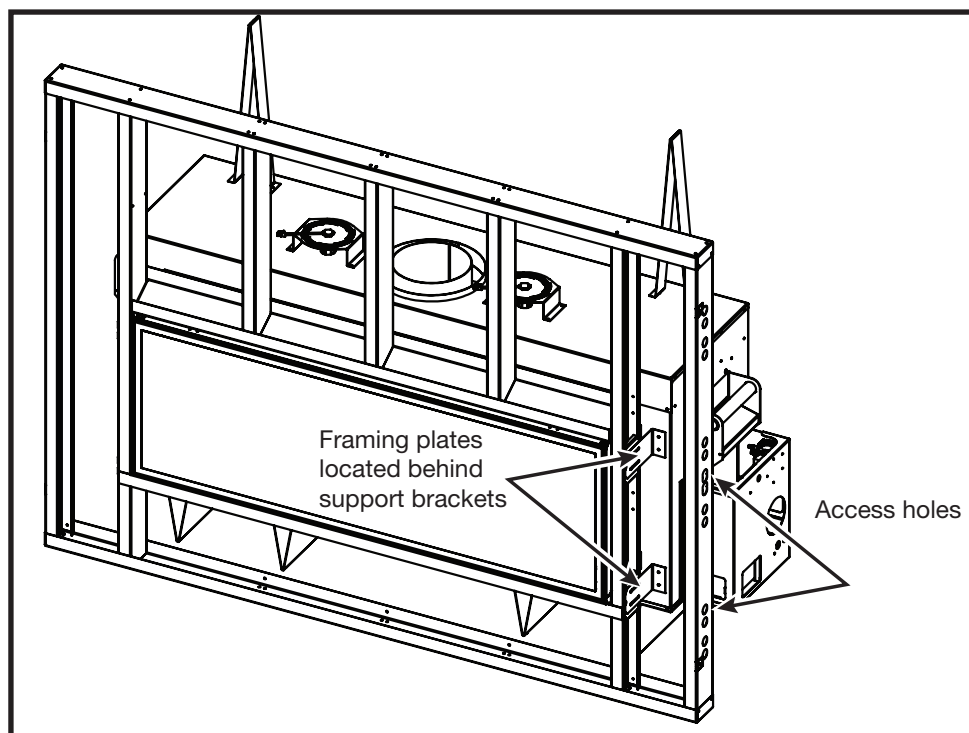

Figure 16: Aligning steel frame to fireplace.
2. Place 3 center studs (#6) perpendicular to, and below the above horizontal beam at the beams 3 middle-most securing points. Make sure that the lower pointed ends of the center studs are closest to you. Use wafer screws (1) to join the top side of the vertical pieces to the horizontal piece.
9. Align the assembled frame to the unit framing plates (#8). Attach at the fastening points through the access holes (Figure 16) in the outer side studs (#3).